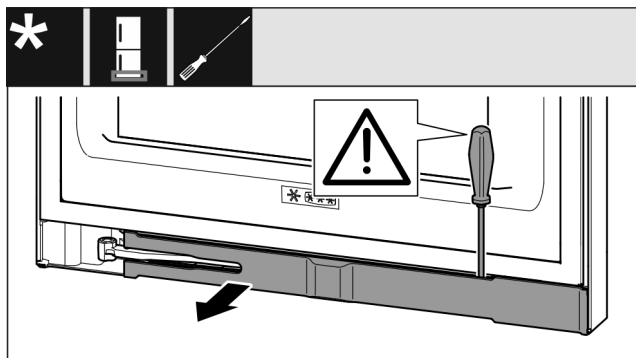

Fig. 13
- Use a slotted screwdriver to unlatch the trim and swing it to the side. (see Fig. 13)